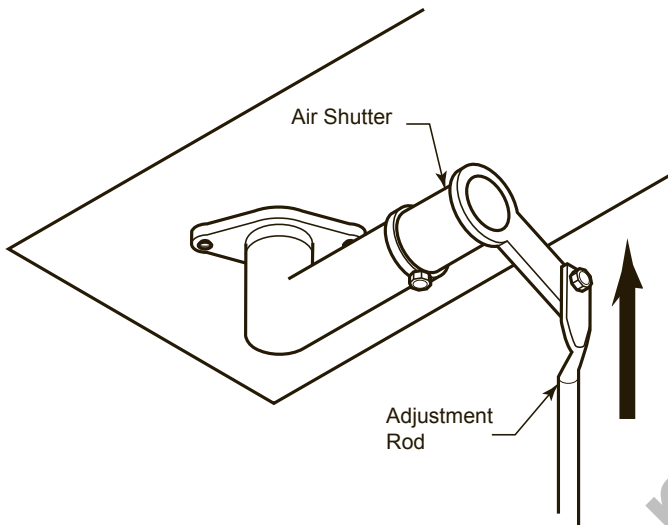

Figure 37 -
- To increase air mixture, pull down the adjustment rod located beneath the stove. This opens the shutter more and will stop sooting. *Figure 37*